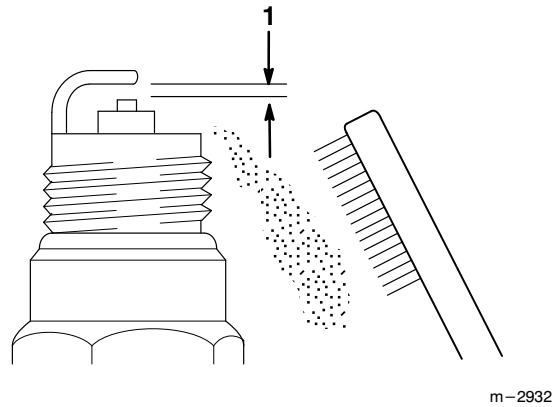

Figure 18
5. Clean the electrodes with a stiff brush (Fig. 18).
6. Adjust the electrode air gap to .024–.028 in. (0.6–0.7mm) (Fig. 18).